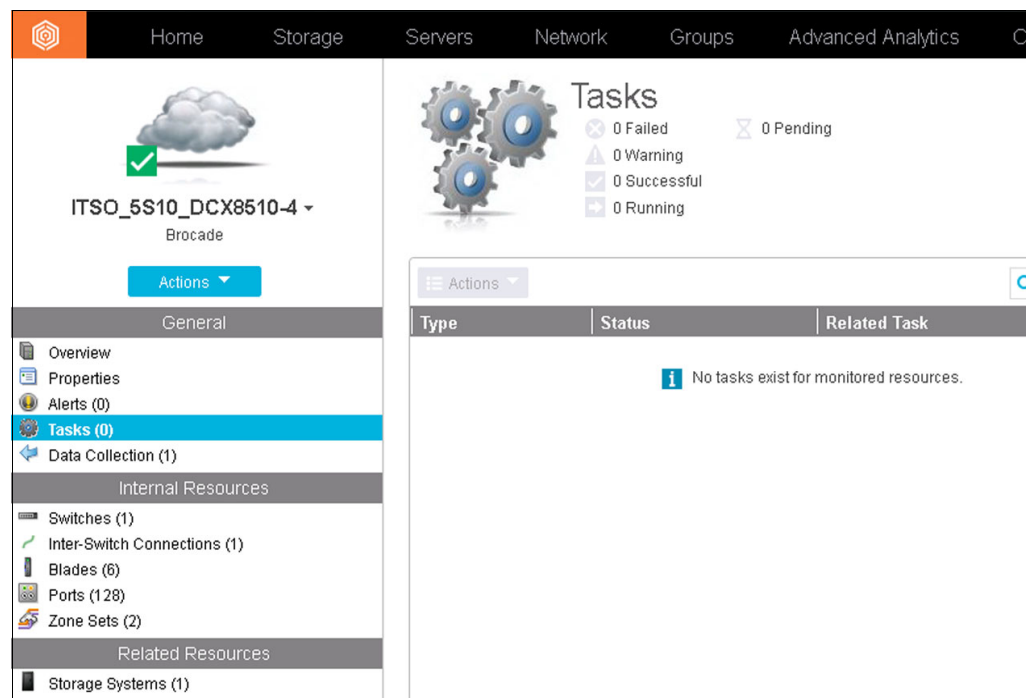

Figure 6-30 Main view of the Tasks section
- Tasks: Enables you to view and manage the tasks that IBM Spectrum Control runs on the fabric, such as new zones creation during the block storage capacity provisioning. Figure 6-30 shows the Tasks main view.